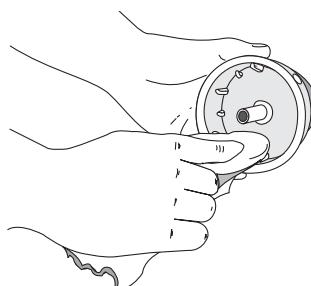

Fig. 28
4. Use a clean cloth to clean the inner reel, spring, shaft and inner surface of the outer spool (Fig. 28).